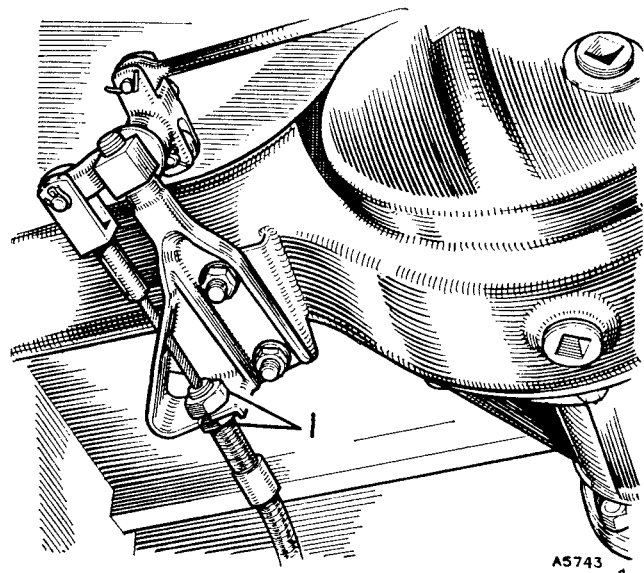

Fig. M.4
- (21) Adjust the rear brake-shoes as detailed in (11) to (16) (early cars) or (17) to (20) (later cars).
- (22) Block both front wheels and jack up the rear of the car.
- (23) Apply the hand brake so that the pawl engages with the third notch on the ratchet.
- (24) Adjust the hand brake cable, with the sleeve nut (Fig. M.4), until it is just possible to rotate each wheel by heavy hand pressure. Both wheels must offer equal resistance in order to get full braking power.
- (25) Release the hand brake and check that both wheels rotate freely.